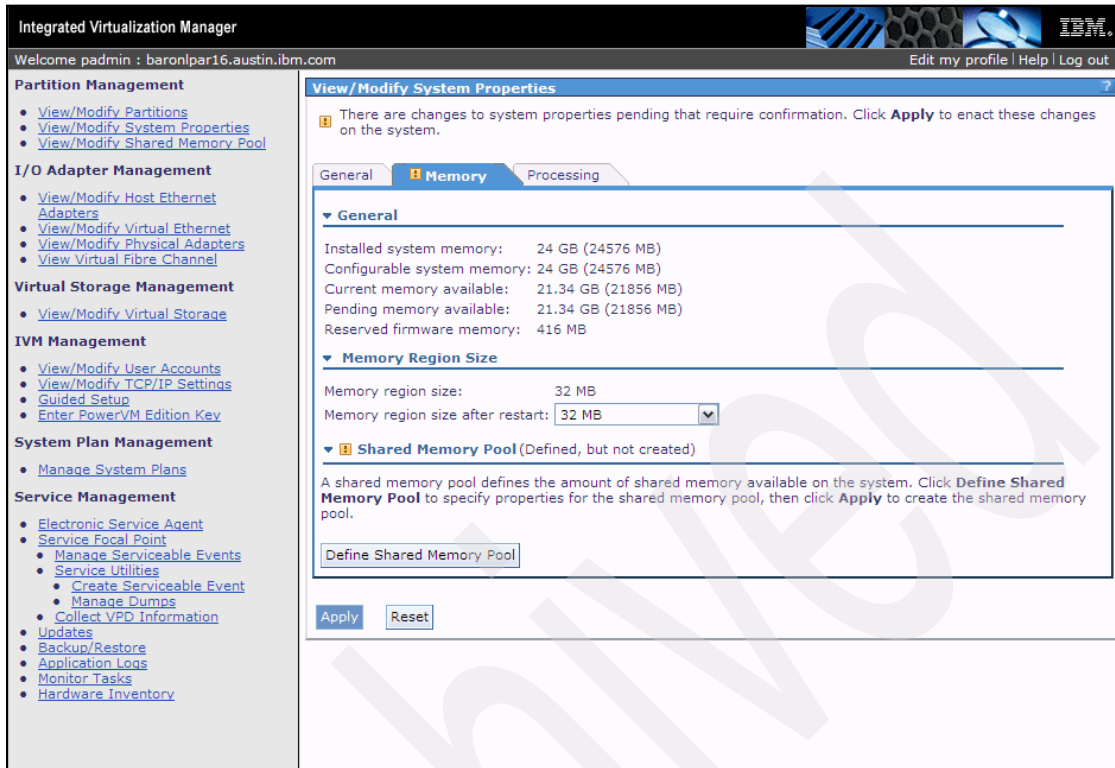

Figure 5-7 Shared memory pool defined state
5. The window refreshes and indicates the shared memory pool has been defined as shown in Figure 5-7 on page 185. Click **OK**.